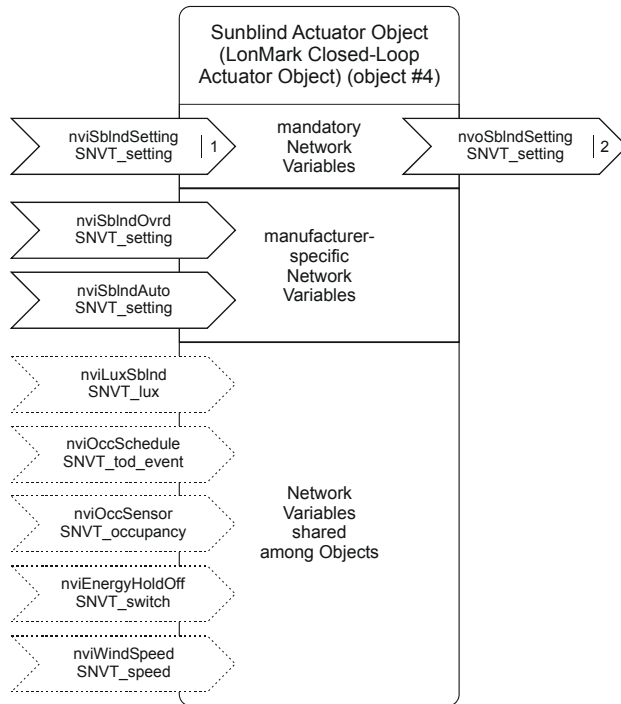

Fig. 10. Sunblind Actuator Object
- 1 sunblind / closed-loop actuator object (#4) (see Fig. 10). Insofar as a generally agreed-upon LonMark® object is not yet available, sunblind control is achieved in a generic fashion.